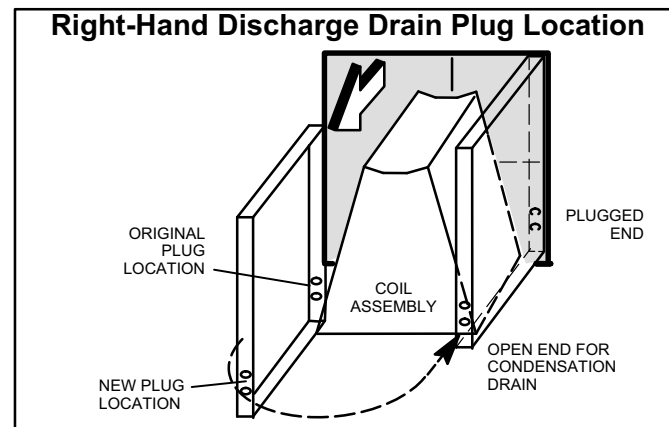

FIGURE 13
6. Move horizontal drain pan to the opposite side of the coil. Plugged drain holes will now be toward the back of the unit (see figure 13).